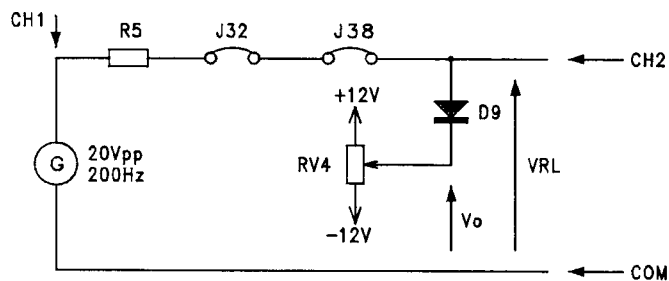

fig. B07.7
- Connect jumpers J32, J38, to produce the circuit of figure B07.7